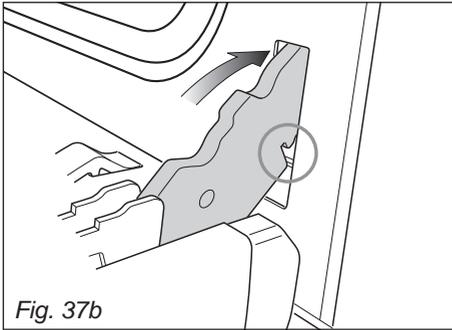

Fig. 37b
2. Insert the hinge tongues into the slots, making sure that the groove drops into place as shown in the figure 37b.